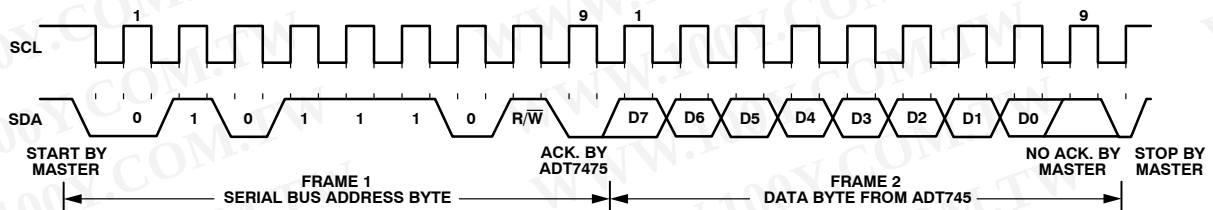

Figure 15. Reading Data from a Previously Selected Register
- If the address pointer register is known to be already at the desired address, data can be read from the corresponding data register without first writing to the address pointer register see Figure 15.